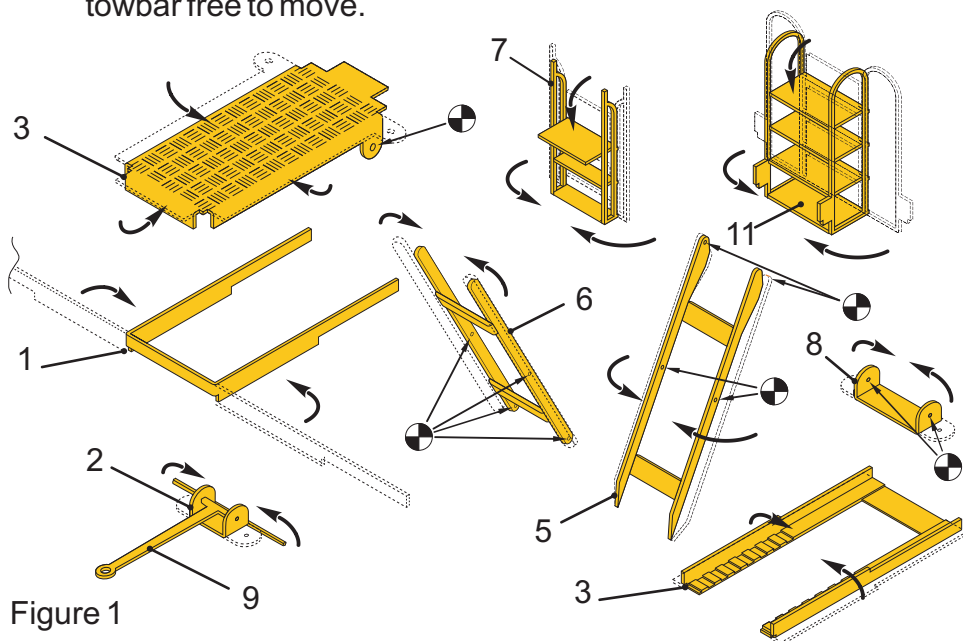

Figure 1
- 2 Fold each part as shown in Figure 1, below. Fold up the tabs on the chassis (2) to trap the pins on the towbar (9), but leave the towbar free to move.